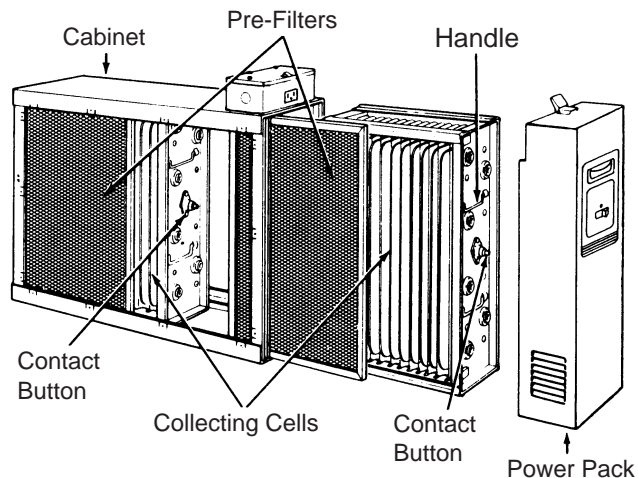

Figure 20
- With the cabinet Installed**, reinstall pre-filter(s) and collecting cell(s) (Figure 20).
2. Push the ON-OFF switch on the power pack to the "OFF" position (Figure 20). Wait 15 seconds and both the power pack and the collecting cell(s) will be automatically discharged.